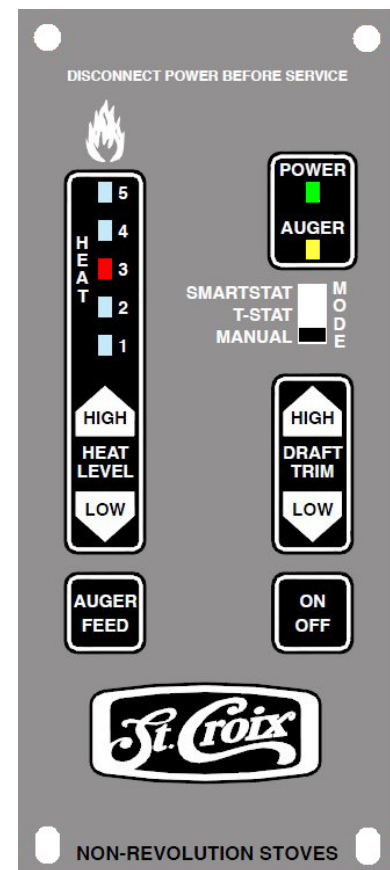

Figure 18
A closer look at the Control Board to the right in figure 18 will explain how the board works.
2. Push the On/Off button on the control board. (*See figure 18 on page 25*)